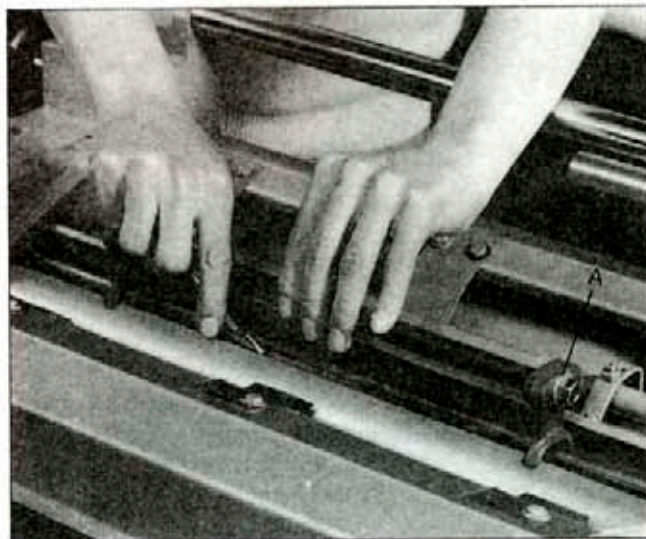

Fig. 21
7. After all four knives are set with screws just snug, back out and tighten the six screws (D) Fig. 21, 22 against the slot starting with the end screws first, then the center screws until the knife is securely held in the cutterhead. Tighten remaining three knives in the same manner.